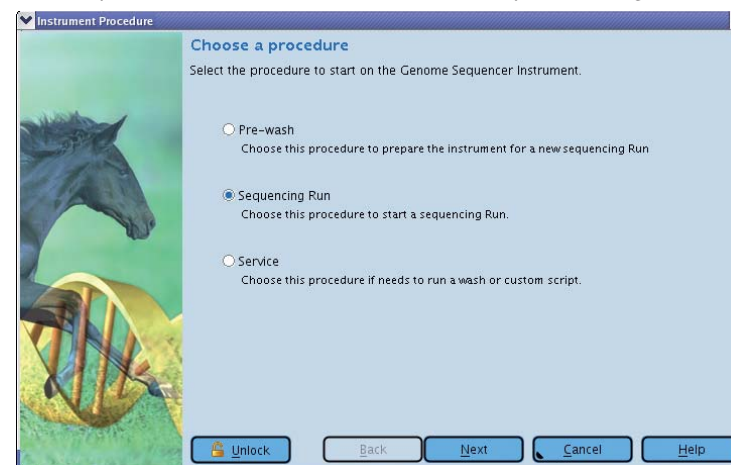

Figure 19: The Run Wizard's first window: Choose a procedure
- This opens the Run Wizard's first window: Choose a procedure (Figure 19).